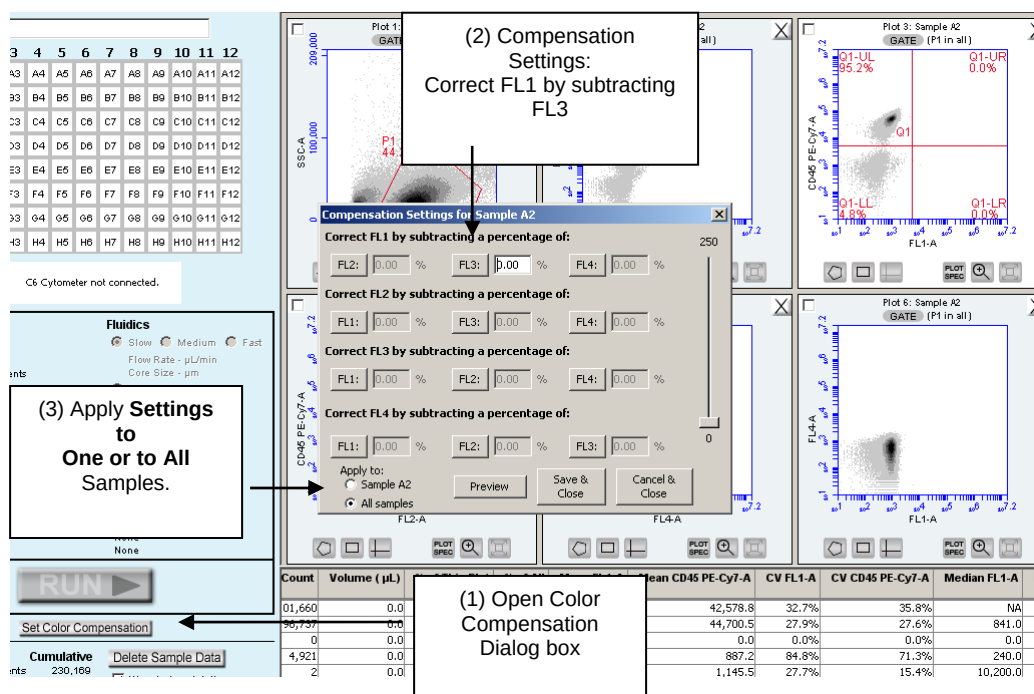

Figure 3-26 Opening and using the Compensation Settings dialog box.
- Click on the **Set Color Compensation** button to open the **Compensation Settings** dialog box (Figure 3-26, lower left).